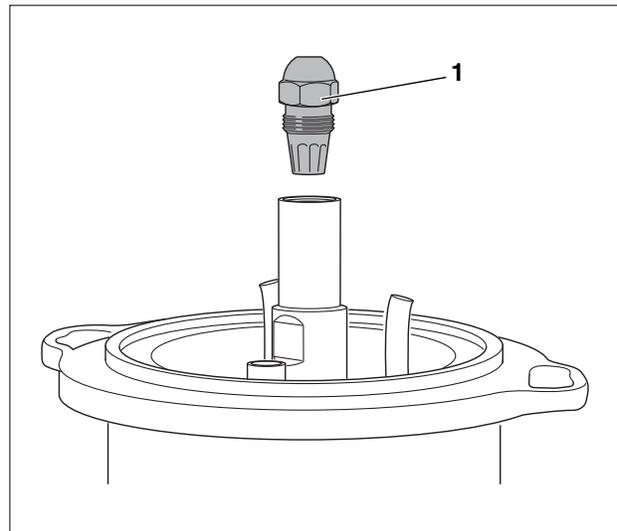

Fig 27 Removal of oil nozzle
- Loosen and remove the oil nozzle (Fig. 27, **Item. 1**) using 2 wrenches, 16 and 19 mm.
- Remove the oil nozzle (Fig. 27, page 28).